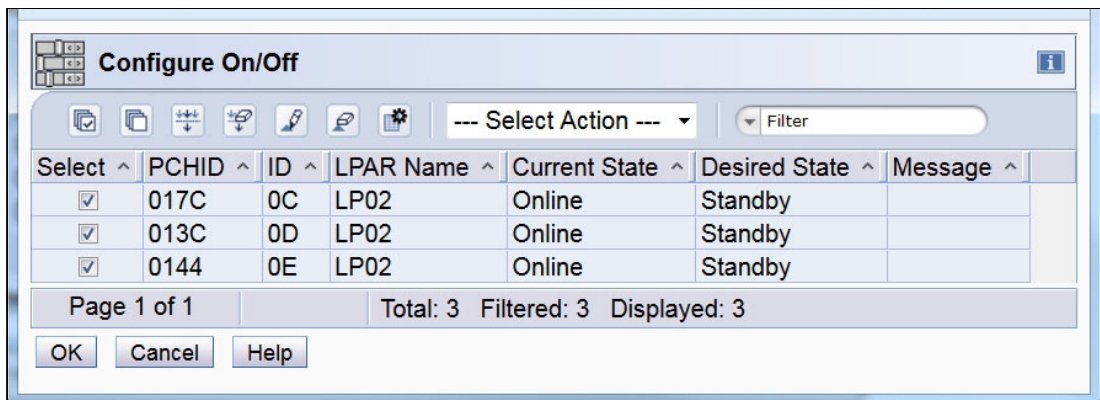

Figure 10-28 SE: Config On/Off (Online to Standby)
- After you confirm that the state for your requested cryptographic channel is Standby, click **OK** (Figure 10-28).